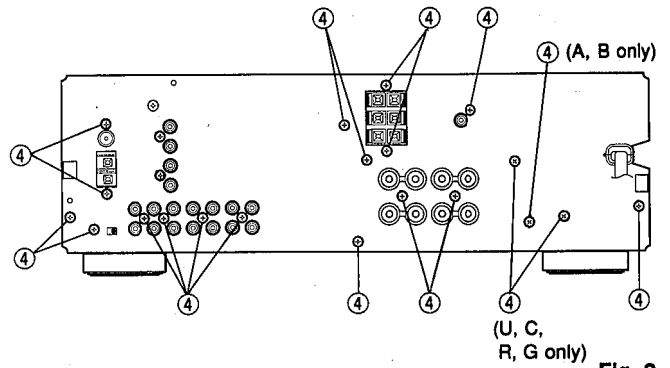

Fig. 2
3. Checking and Parts Replacement of P. C. B. MAIN (1).
- b. Remove 19 screws (④) fixing the Rear Panel in Fig. 2.